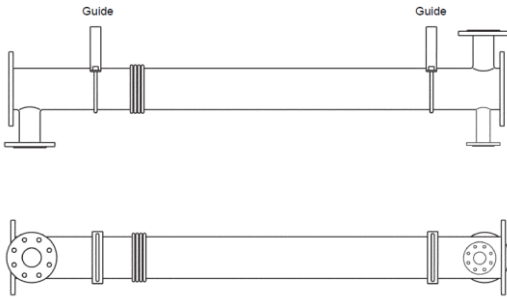

Fig. 6 EVC
**Warning:** Only one end of the heat exchanger must be fixed. The other end must be allowed to move axially on a specially constructed sliding guide (Fig. 6 and Fig. 7), to allow for the normal expansion of the heat exchanger tubes, which results in the system lengthening axially, and varies depending on the operating temperature.